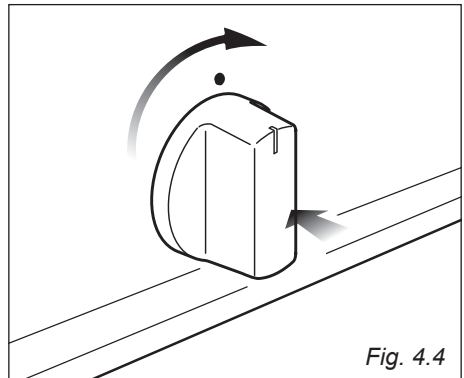

Fig. 4.4
- 2 – Lightly press and turn the thermostat knob clockwise to the position  (fig. 4.4). Press the knob firmly until the burner lights.